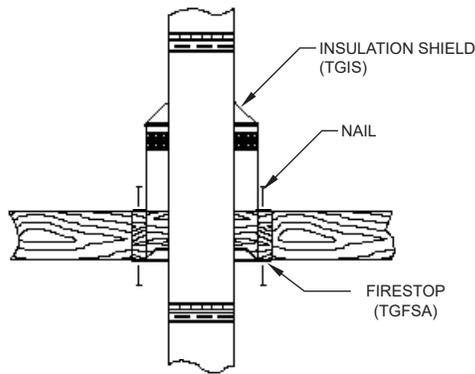
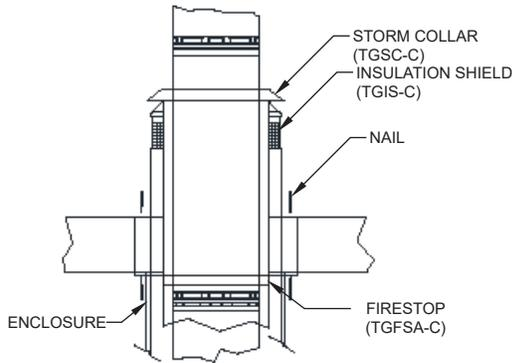
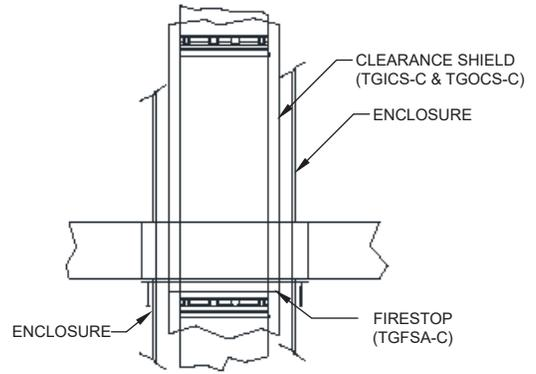

FIG. 6: CHIMNEY IS ENCLOSED BELOW THE ATTIC
FIG. 6a: CHIMNEY IS ENCLOSED BELOW THE ATTIC AND ATTIC IS UNENCLOSED
FIG. 6b: CHIMNEY IS ENCLOSED BELOW THE ATTIC AND ENCLOSED IN THE ATTIC
8. The first chimney section through the joist area into attic is to be approximately two (2) feet. If the pipe sections in the levels below and in the attic are not enclosed an insulation shield (TGIS) must be installed. The vertical height of the attic insulation shield above attic construction material should accommodate the amount of insulation as required by the national building code. Lower insulation shield (TGIS) over TG pipe until the flange is resting on the joist. Secure the (TGIS) in place by nailing the flange to the joists. (See FIG. 6). If the pipe sections in the levels below the attic are enclosed and the attic is unenclosed an insulation shield (TGIS-C) must be installed. The clearance shields (TGICS-C & TGOCS-C) must extend through the joist area and insulation shield (TGIS-C). The clearance shields (TGICS-C & TGOCS-C) will terminate above the insulation shield (TGIS-C) and a storm collar (TGASC-C) must be used to close the gap between the TG chimney and clearance shields preventing insulation and debris to fall between them (See FIG. 6A and FIG. 6b). If the pipe sections are enclosed through the attic, no insulation shield is required. The clearance shields will need to extend up through the flashing.